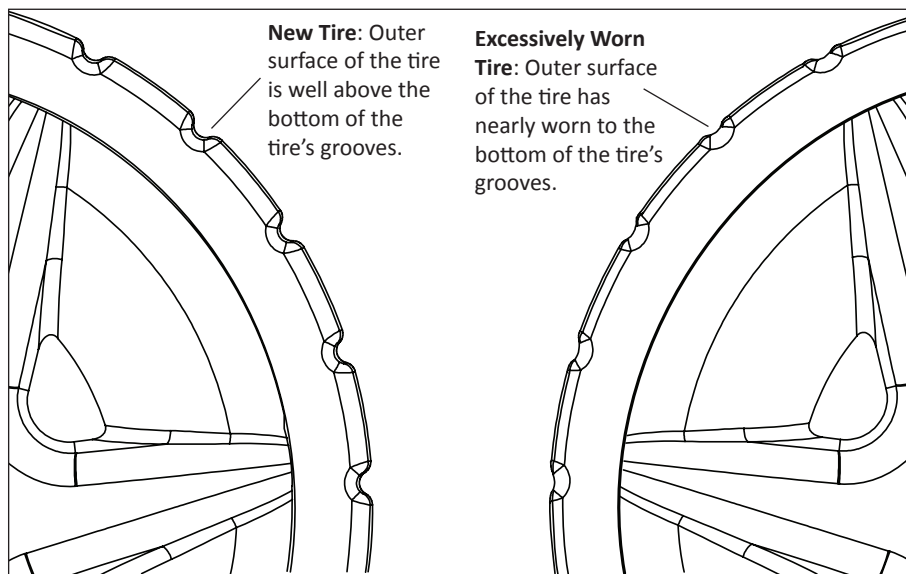

Figure 18: Tire Wear Comparison
- The tires are not excessively worn. See **Figure 18** on the next page.
After prolonged use it may become necessary to replace the S5™ Suction Side Pool Cleaner's rubber tires. When the tire surface has worn into the tire's grooves the tire is in need of replacement. See **Figure 18**.